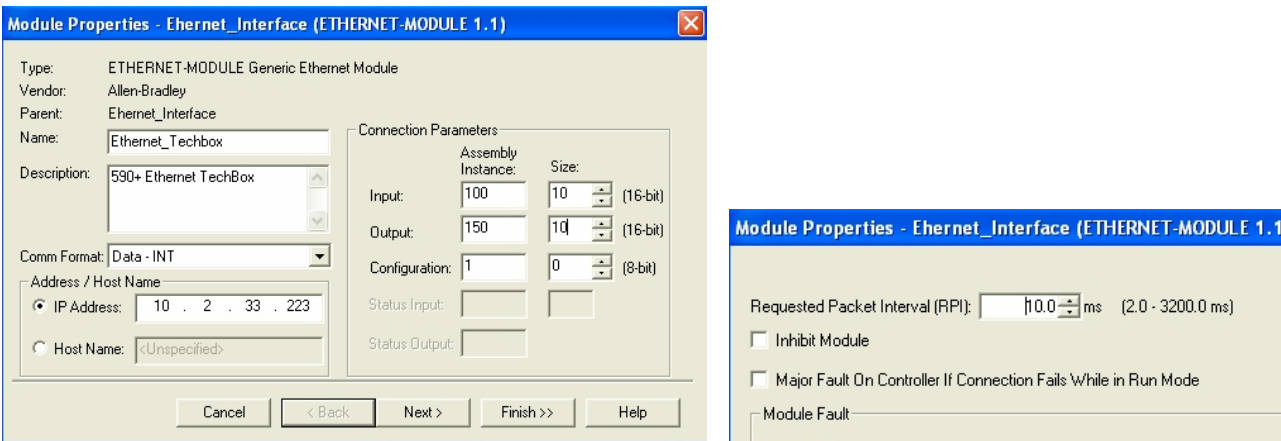

Figure 12. Generic Ethernet Module Setup
12. Input the desired module name and IP address. The Comms format will be DATA Int. (16 bit). The Input Assembly Instance is 100 and the Output Assembly Instance is 150. The data size for the 590 Plus is 10 words and the data size for the 690 Plus is 18 words. Refer to Figure 12.
13. Click on Next to change the Requested Packet Interval (RPI). The default value of 10ms should be sufficient. If The RPI is set below 5ms unreliable communications will be experienced. Refer to Figure 12.